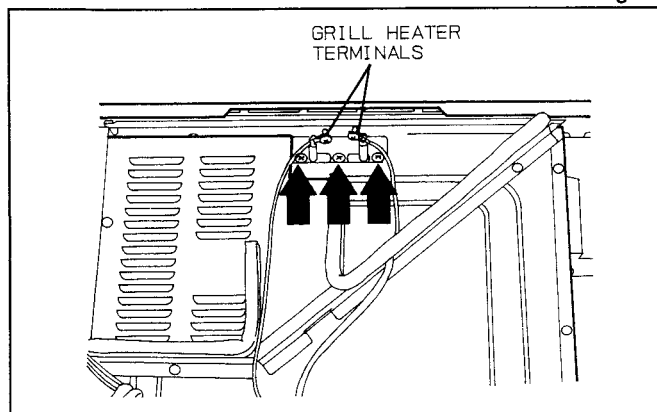

Fig. 26
(C) Remove 3 screws holding grill heater. (Fig. 26)